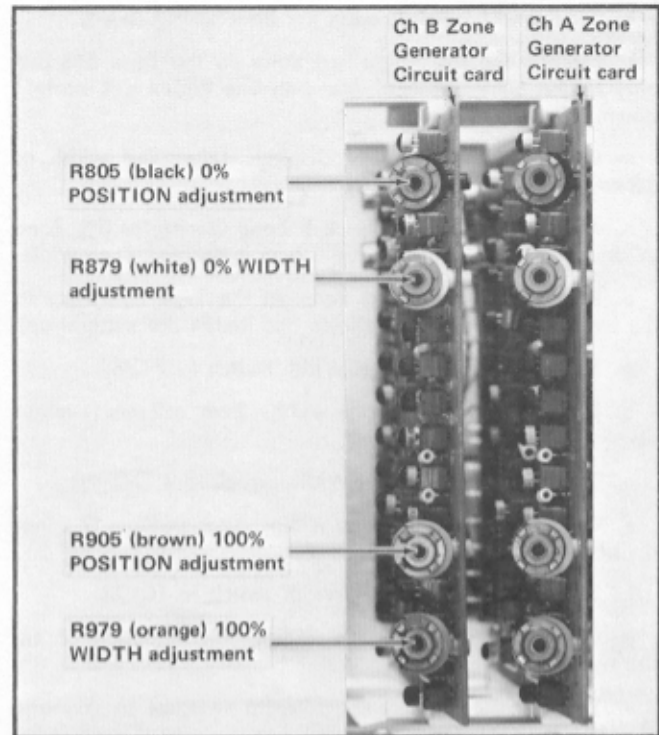

Fig. 7-9. Adjustment locations for steps 28-31.
- f. ADJUST—R805 (black), the 0% Position adjustment on the Ch A Zone Generator circuit card (Fig. 7-9), so that the intensified zone starts at the 1-cm vertical graticule line.
- j. ADJUST—R905 (brown), the 100% Position adjustment on the Ch A Zone Generator circuit card (Fig. 7-9) so that the intensified zone starts at the 1-cm vertical graticule line.
- c. ADJUST—R979 (orange), Ch B Zone Generator 100% Zone Width adjustment (Fig. 7-9) for 0.3 cm intensified zone width.